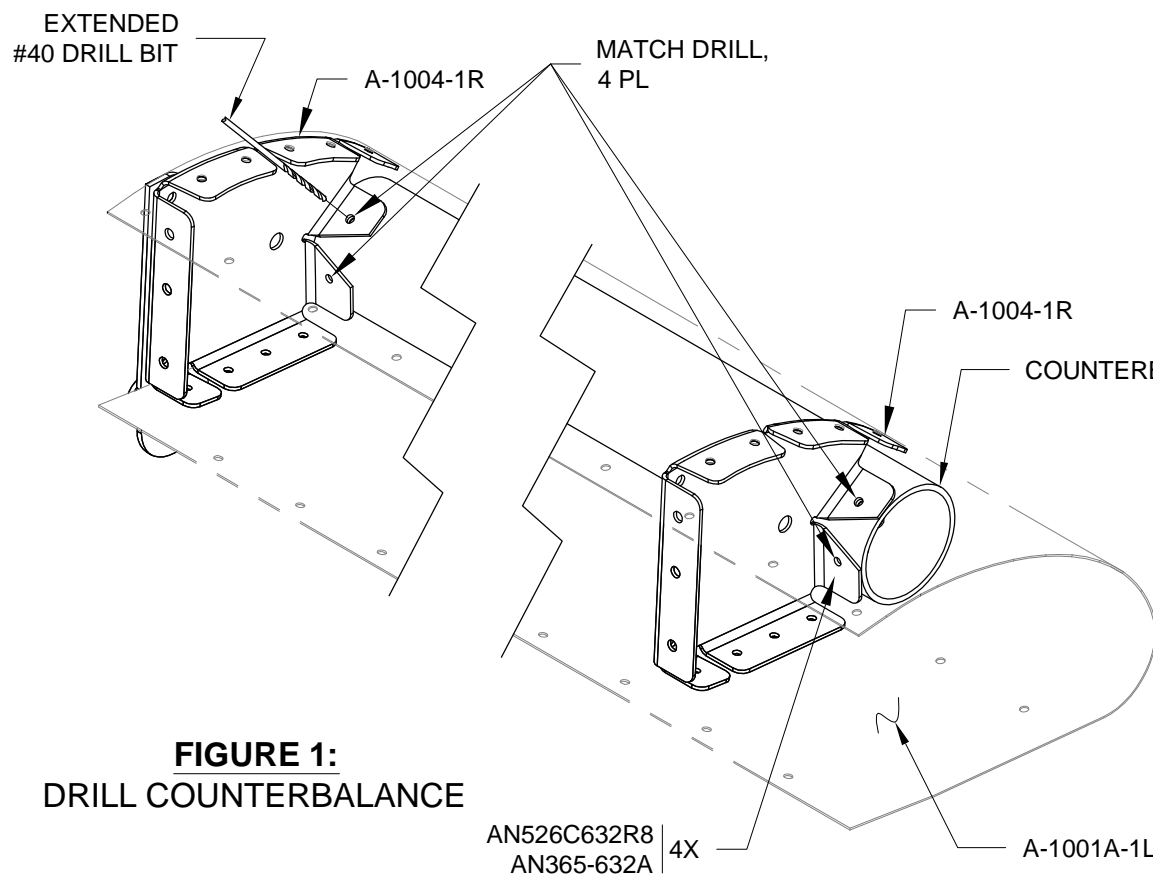

FIGURE 1: DRILL COUNTERBALANCE
Step 2: Use an extended #40 drill bit to mark the A-1009 Counterbalance to A-1004-1R Nose Rib attach holes on the spar by leaning the drill in alongside the rib as shown in Figure 1.
Attach the counterbalance to the nose ribs using the hardware called out in Figure 1. If you have difficulty getting a screwdriver on the head of the screw use an offset screwdriver or a Phillips bit tip held in Vise-Grip pliers at 90°.